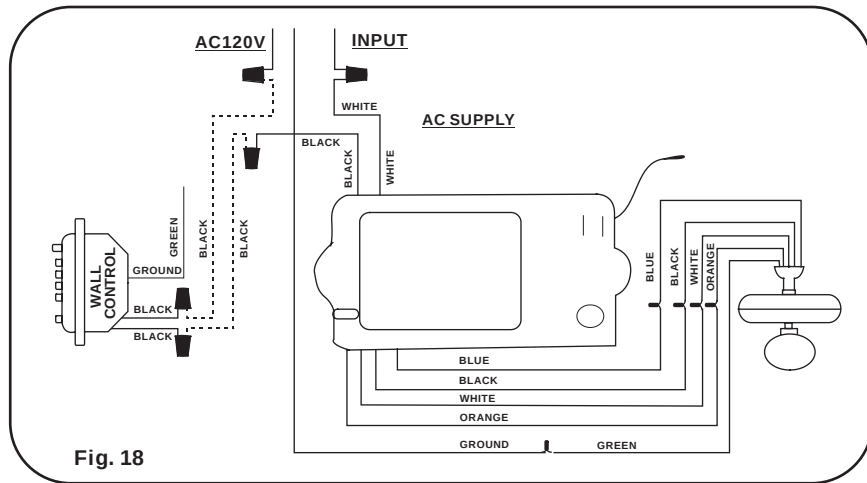

Fig. 18
Step 2. Make the electrical connections as shown in Fig.18. If your outlet box has a ground wire (Green or Bare Copper) connect the Transmitter's ground wire directly to one of the screws from the outlet box. Secure all wire connections with the plastic wire nuts provided.